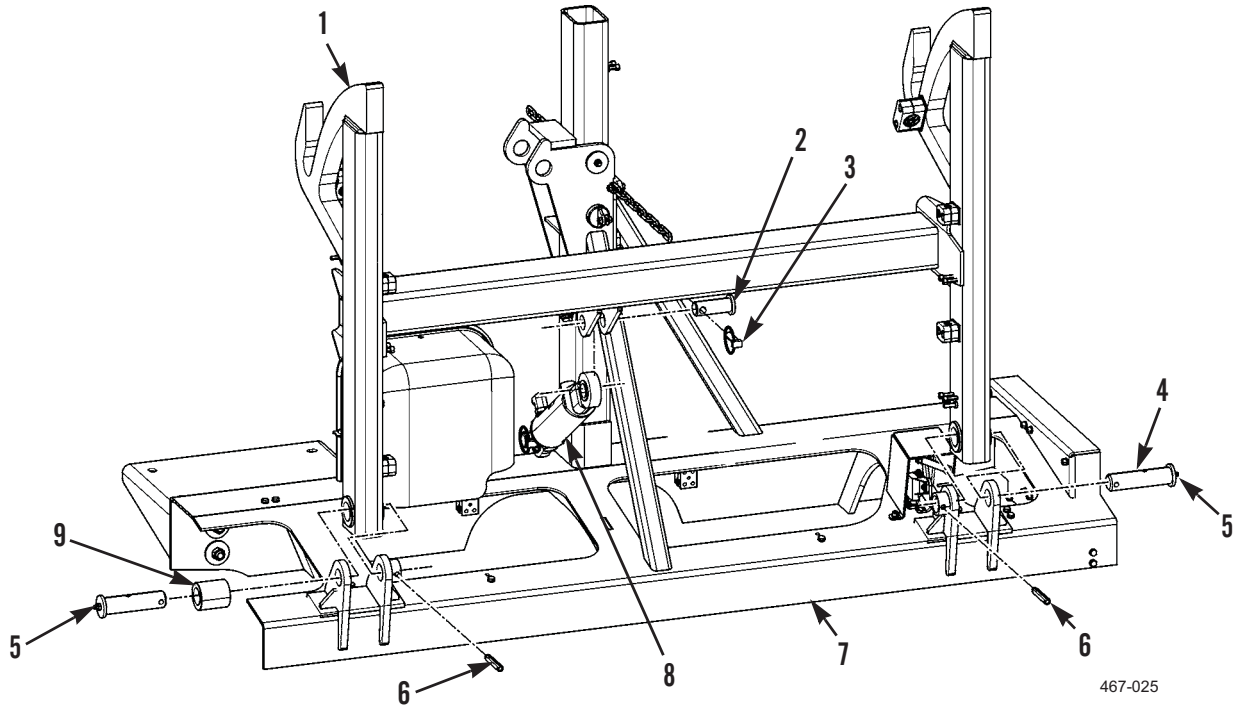

Figure 1. Stowage Guide.
1. Attach sling and lifting device to stowage guide (Figure 1, Item 1).
2. Remove snap ring pin (Figure 1, Item 3), pivot pin (Figure 1, Item 2), and stowage cylinder (Figure 1, Item 8), from stowage guide (Figure 1, Item 1).
3. Remove two grease fittings (Figure 1, Item 5) from pivot pins (Figure 1, Item 4).
4. Remove two spring pins (Figure 1, Item 6) and pivot pins (Figure 1, Item 4) from stowage guide (Figure 1, Item 1).
5. Use lifting device to remove stowage guide (Figure 1, Item 1) from stowage assembly (Figure 1, Item 7) and lower onto level surface.
6. Remove two bearings (Figure 1, Item 9) from stowage guide (Figure 1, Item 1).